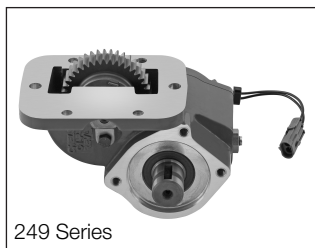
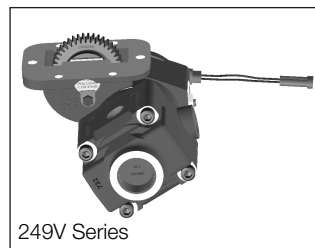

Figure 18
Figure 19
2. Main PTO housing. This unique design allows for time saving installation on both 4x2 and 4x4 Super Duty applications (**Fig. 18 and Fig. 19**).